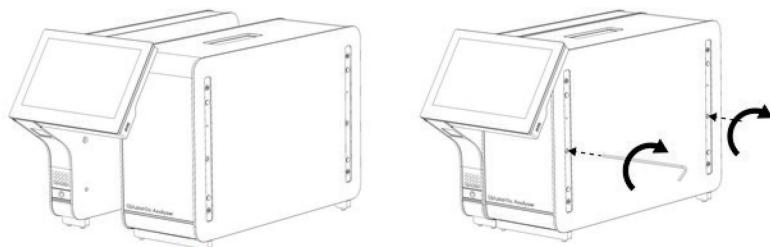

Figure 6. Attaching the Operational Module to the Analytical Module.
3. Remove the Operational Module from its box and attach it to the left side of the Analytical Module. Tighten the screws using the Analytical-Operational Module Assembly Tool delivered with the QIAstat-Dx Analyzer 1.0 (Figure 6).